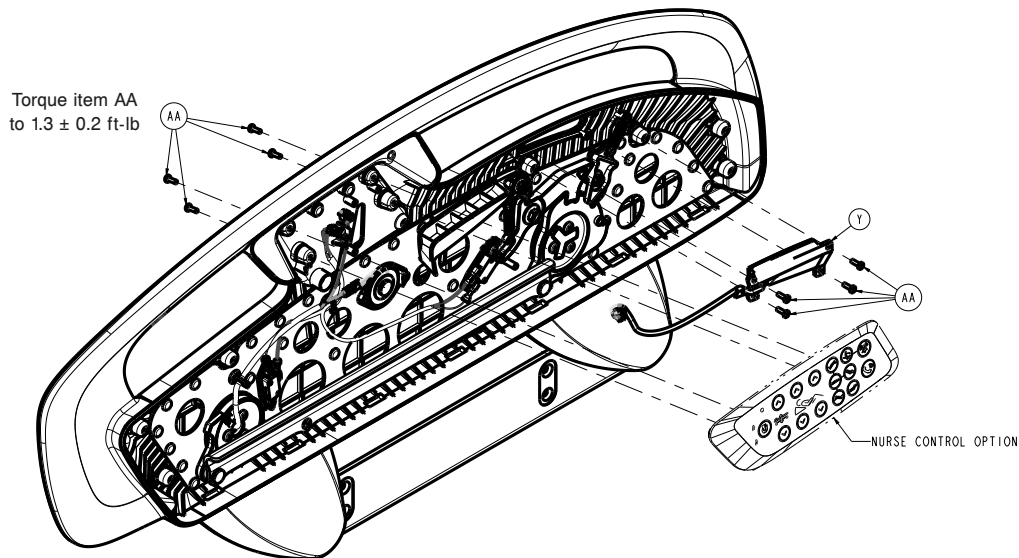

Figure 35 – Replacing the nurse control board
- Using a T20 Torx driver, remove the four screws (AA) that secure the nurse control board to the siderail hoop (Figure 35). Save the screws. Allow the nurse control board to hang.
- Using a T20 Torx driver, remove the four screws (AA) that secure the patient control board (Y) to the siderail and unplug the cable (Figure 35).
10. Using a T20 Torx driver, remove the four screws (AA) that secure the nurse control board to the siderail hoop (Figure 35). Save the screws. Allow the nurse control board to hang.
12. Using a T20 Torx driver, remove the four screws (AA) that secure the patient control board (Y) to the siderail hoop (Figure 35). Remove and save the board and cable.
13. Using a T20 Torx driver, remove the two screws (AA) that secure the speaker (V) to the siderail hoop. Save the screws. Remove and save the speaker.